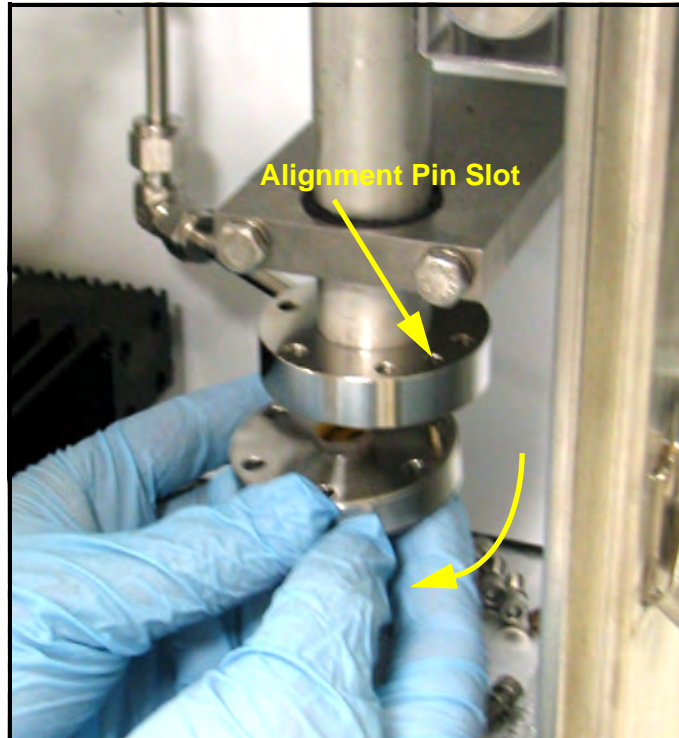

Figure 81: Reinstalling the Mirror Assembly
14. As you line up the mirror to the measurement cell, note the “key” for properly connecting the two pieces. The mirror will align in only one position for mounting. Rotate the mirror assembly to line up the alignment pin with the alignment pin slot (see Figure 81).